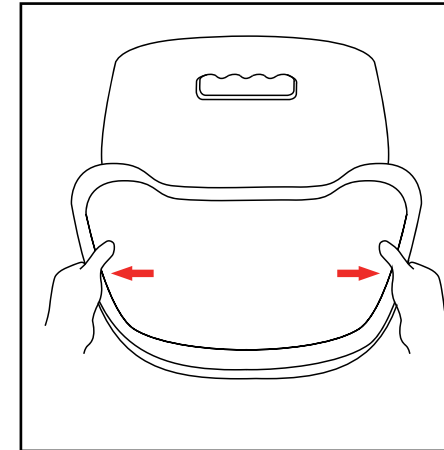

Fig.1
- 2.5 THIS CHAIR CONTAINS A TRAY FOR THE CHILD. YOU CAN PUT THE DISH, BOWL OR TOYS ON THE TRAY. THE TRAY CAN BE ASSEMBLED AND DETACHED, IT IS A DETACHABLE DESIGN.(FIG.1)